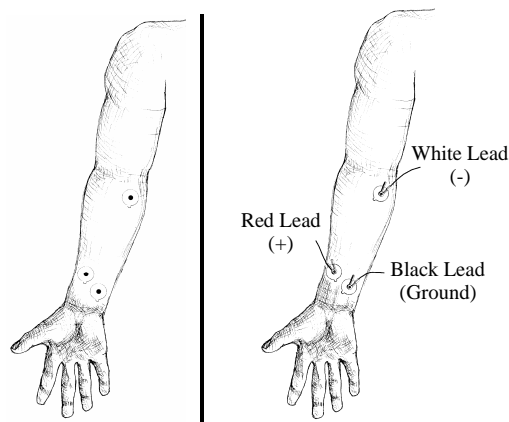

Fig. 2.4 Electrode Placement & Lead Attachment
5. **Attach three electrodes** to each forearm (Fig. 2.4).
6. Attach the electrode lead set (SS2L) to the Subject's dominant forearm, following the color code (Fig. 2.4).
Make sure the electrode lead colors match Fig. 2.4.
Attach three electrodes to each forearm as shown in Fig. 2.4.
Attach the lead set (SS2L) to the **Subject's** dominant forearm (Fig. 2.4) for recording Segments 1 and 2 (forearm 1).
- The electrode lead cables are each a different color and each must be attached to a specific electrode position, as shown in Fig. 2.4.